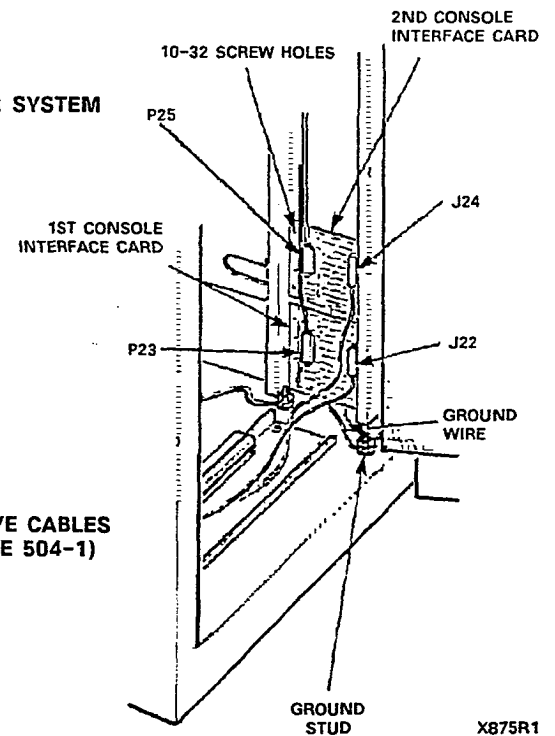

Figure 504-1
- (3A) Loosen all cable clamps so that the cables have approximately 25 cm (10 in.) of slack (Figure 504-1)
REMOVE CABLES (FIGURE 504-1)